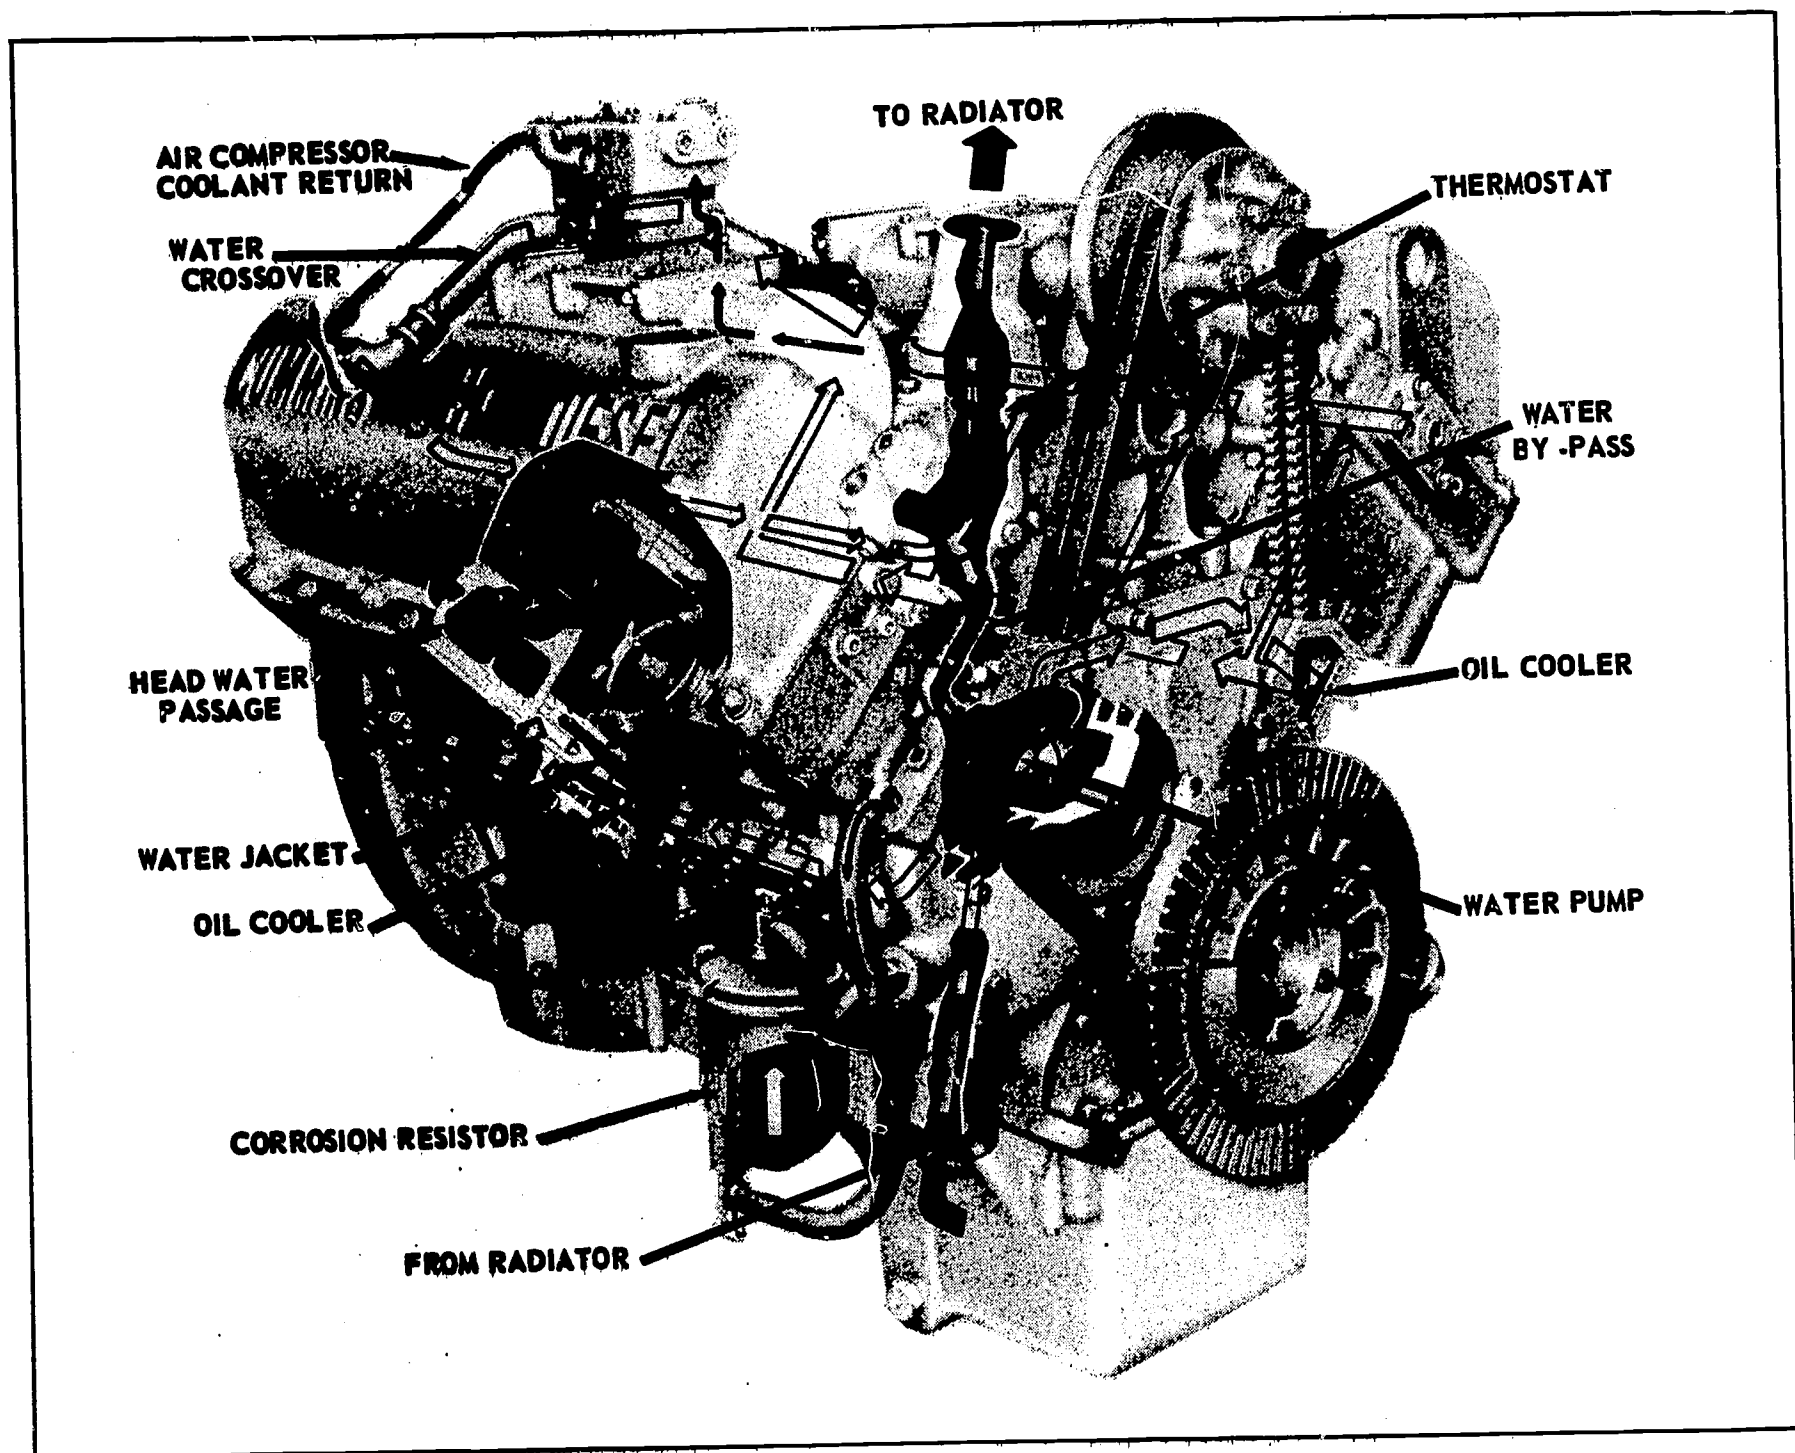

Fig. 2 Coolant flow through a Cummins V8 engine.
**CIRCULATION** - After the coolant absorbs heat from the engine parts, it carries the heat to the radiator or heat exchanger where it is carried off. To do this, a number of component parts are required. The most important of these parts is the water pump, which forces the coolant through the water header, the water jacket, the water manifold, the thermostat control and by-pass connection, the radiator, the oil cooler, and back to the pump. The necessary high volume of coolant flow is made possible by a recirculation by-pass which permits flow in the engine block and head areas at all times, regardless of whether the thermostat is opened or closed. Naturally, if the passages in the head and block areas are not kept open and clear, proper circulation is not possible; see Figure 2.
To better understand the parts of a cooling system, trace the flow of coolant through the engine in Figure 2. Notice that the cylinder liner is of the wet type, in which coolant touches the upper half. Approximately half way down, a rubber "O" ring encircles the liner, preventing coolant from entering the crankcase.
After the heat has been removed from the coolant in the radiator, it passes from the radiator to the water header (see Figure 2), a large drilling that extends the full length of the upper portion of the engine block.